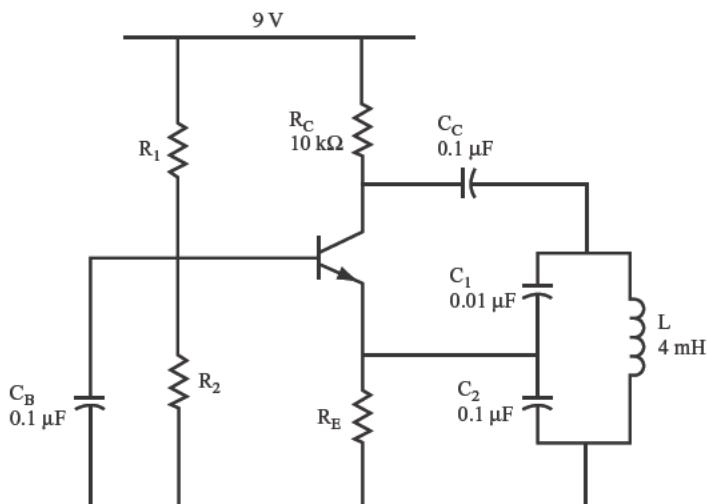

FIGURE 9.37
7. The circuit is shown in Figure 9.37.
- 32 Figure 9.37 shows the circuit designed in problem 31.